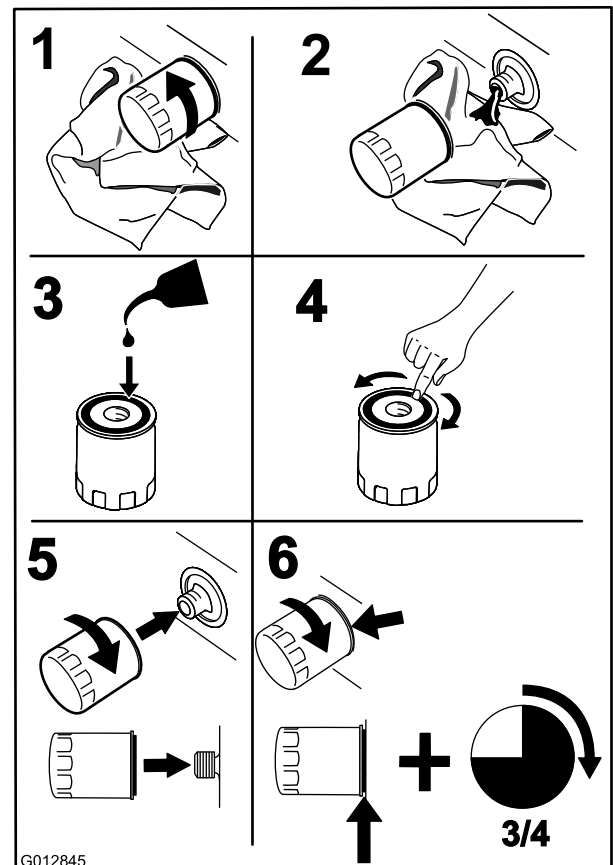

Figure 47
3. Change the engine oil filter (Figure 47).